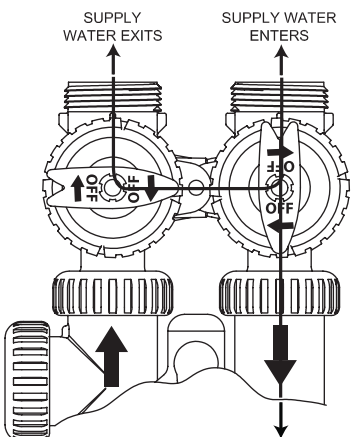

FIGURE 3
- Step 2: Press and Hold the REGEN button on the Triton until you hear the motor engage. This will initiate an immediate manual regeneration of the system. Refer to the table on page 9 for Triton cycles of operation. Turn the bypass valve to "diagnostic" mode position (see figure 3 on page 12). (You should hear water entering the system.) Wait a few minutes to ensure the control valve can draw water and does not leak. Allow the system to backwash until the water going to drain is clear. If everything is working, press and release the REGEN button. You will hear the motor engage and move the piston into the "Brine Dn" position. Check the brine line for leaks or suction. You should hear the valve drawing brine. Continue to skip cycles by pressing and releasing the REGEN button (wait for the motor to stop before pressing REGEN) until you reach the "Brine Fill" position. This ensures that water will go to the brine tank. Fill tank 3" to 4" above salt grid. Make sure enough water is in the brine tank to dissolve the correct amount of salt for regeneration (1 gallon of water will dissolve 3 lbs. of sodium chloride). Allow the brine tank to fill with water to air check level. If the system needs 6 lbs. of salt to regenerate, then at least 2½ gallons of water must be in the brine tank above air check in the brine well. The extra ½ gallon is an additional measure for evaporation or loss. ($6 \div 3 = 2$ gallons of water plus ½ gallon). Fill the brine tank with salt. (We recommend potassium chloride (KCl) instead of rock salt.) Once the brine tank is filled to this level, press REGEN once more to return the valve to service. You should hear the motor engage for a short period and then a long period.
Figure 3. Diagnostic Position: The inlet handle points in the direction of flow and the outlet handle points to the center of bypass valve, system water pressure is allowed to the control valve and the plumbing system while not allowing water to exit from the control valve to the plumbing.